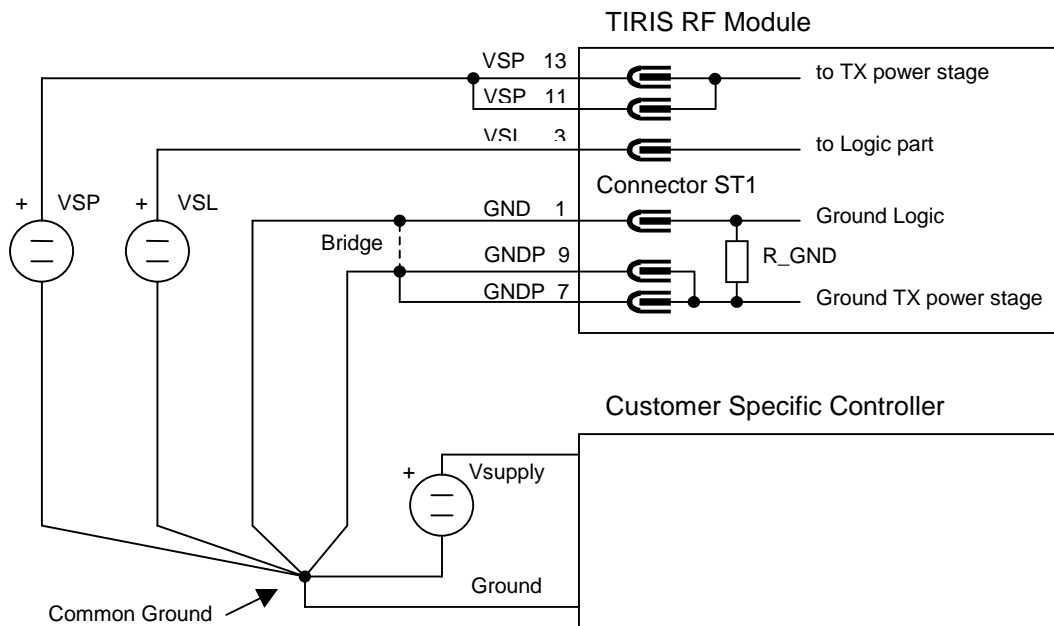

Figure 6: External Ground Connection (GND to GNDP)
1. A high resistivity of the GNDP pins could cause a voltage drop across these pins, due to high transmitter power stage current (this does not apply to the supply pins of the logic section). If the grounds were connected to each other internally, this would also lift the internal logic ground and cause logic level compatibility problems with the Control Module (see Figure 6).
2. In order to provide greater flexibility when using long supply lines. Long VSP supply lines between the RFM and the Control Module cause a voltage drop across this supply line (again due to high transmitter power stage supply current). This voltage drop would also lift the logic ground and cause logic level compatibility problems with the Control Module. This can be avoided by connecting the grounds externally in any of three different ways (see also Figure 6) as described below:
- For cable lengths of up to 0.5 m between RFM and Control Module, the RFM ground pins GND and GNDP must be connected at the Control Module, as shown in Figure 6. The grounds for the VSP, VSL and the Control Module supply are connected together at a common ground. Alternatively, if the voltage drop across the VSP supply line is less than 0.5 V (likely in this case), the ground pins GND and GNDP may be connected together at the RFM. If the system has a TIRIS Control Module, the RFM ground pins GND and GNDP are already connected together correctly on the Control Module. When using a customer-specific controller, care must be taken to connect the RFM ground pins GND and GNDP to an appropriate ground on the controller.
- Cable lengths longer than 2 m are not recommended. If the application demands cabling longer than 2 m, the logic signal connections between the RFM and the Control Module should be done via a differential interface (for example RS422). Due to different ground potentials at different locations it may also be necessary to provide galvanic separation of the interface signals by, for example, opto-couplers. In this case, to avoid problems with difference voltages between GND and GNDP, these pins must always be connected directly at the RFM. As shown in Figure 6, a shorting bridge is necessary for this purpose, situated as close as possible to the RFM.